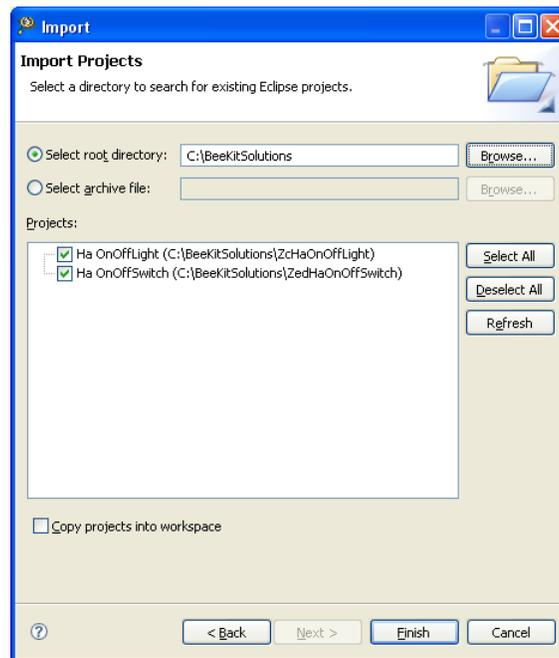

Figure 3-20. CodeWarrior Select Project
6. In this example as shown in Figure 3-20, it is: